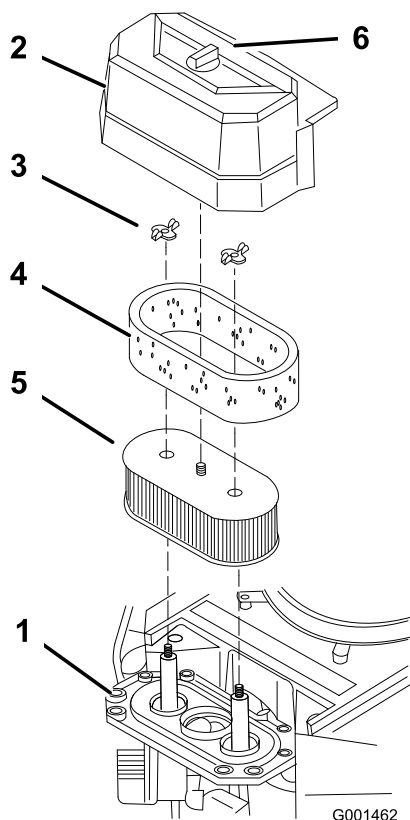

Figure 28
3. Clean around the air cleaner to prevent dirt from getting into the engine and causing damage (Figure 28).
4. Unscrew the cover knob and remove the air cleaner cover (Figure 28).
5. Remove the 2 wing nuts and remove the air cleaner assembly (Figure 28).
6. Carefully pull the foam element off the paper element (Figure 28).
1. Do not clean the paper filter. Replace it after 200 operating hours (Figure 28).
1. Carefully slide the foam element onto the paper air cleaner element (Figure 28).
2. Place the air cleaner assembly onto the air cleaner base and secure it with the 2 wing nuts (Figure 28).
3. Place the air cleaner cover into position and tighten the cover knob (Figure 28).